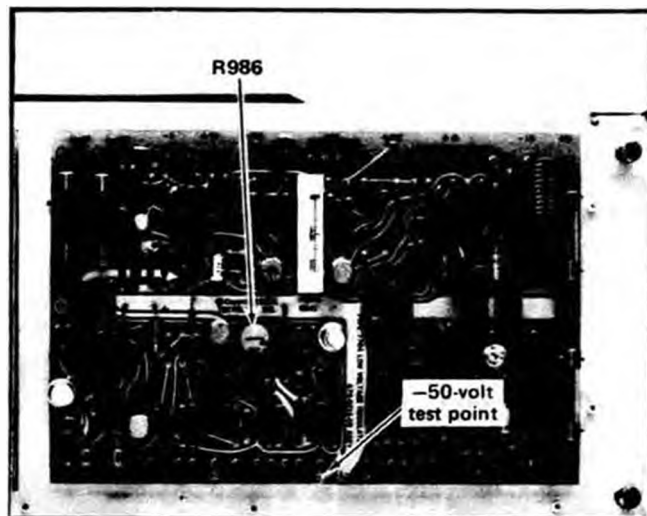

Fig. 5-4. Location of -50 Volt adjust R986 and test point.
①
a. Connect the precision DC voltmeter between the -50 volt test point on the power supply Regulator circuit board and ground (see Fig. 5-4).
c. ADJUST— -50 Volt adjust R986 (see Fig. 5-4) for a meter reading of exactly -50 volts.